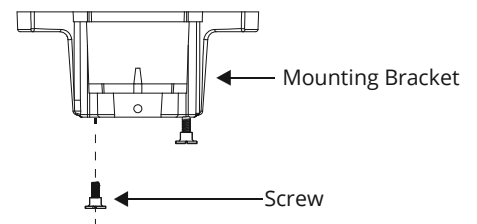

FIG.5
1. Remove 1 of 2 screws from the bottom of the mounting bracket and save for use in section 11. Loosen the other screw (**FIG.5**).